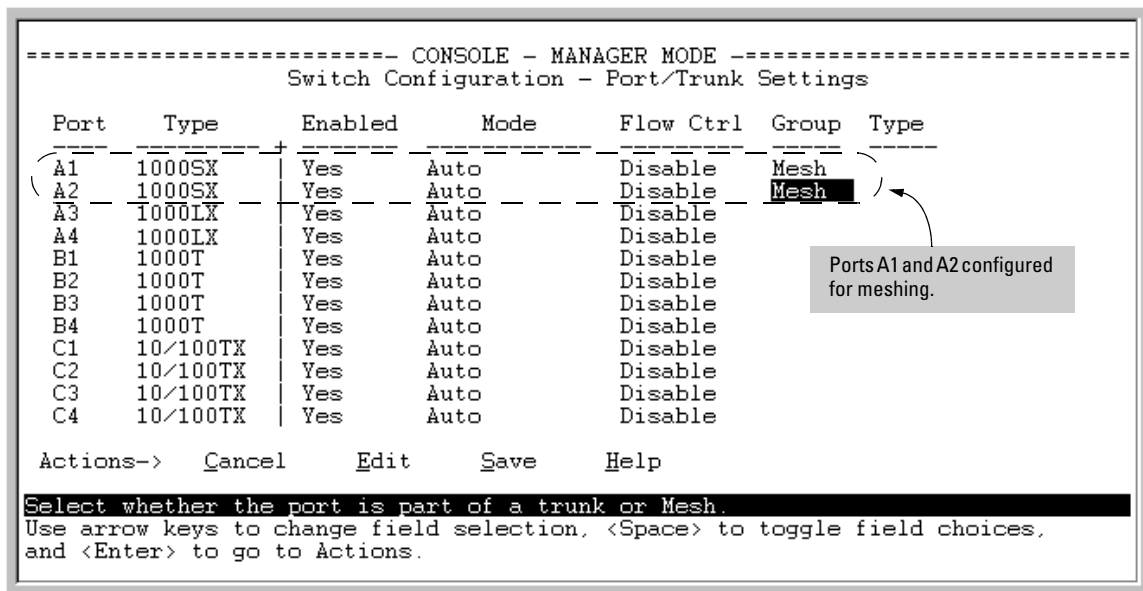

Figure 7-9. Example of Mesh Group Assignments for Several Ports
5. Use the **up-arrow or down-arrow** key to select the next port you want to include in your mesh domain, then press **[M]** again. For example, if you were adding ports A1 and A2 to your mesh domain, the screen would appear similar to figure 7-9: